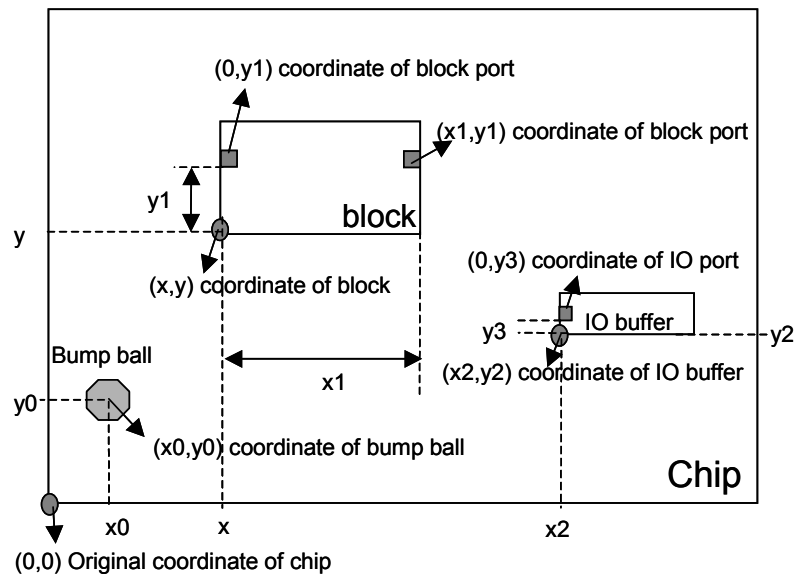

Figure 3. Illustration of coordinate definitions.
2. The coordinate of the chip is set to the bottom left corner of the chip, i.e., $(0, 0)$. See Figure 3.
3. The coordinate of a bump ball is relative to the coordinate of the chip. See Figure 3.
4. The coordinate of a block is set to the bottom left corner of the block. The coordinate of a block port of a block is relative to the bottom left corner of the block. See Figure 3.
5. The coordinate of an input/output buffer is set to the bottom left corner of the buffer. The coordinate of an input/output (IO) port of an input/output buffer is relative to the coordinate of the buffer. See Figure 3.